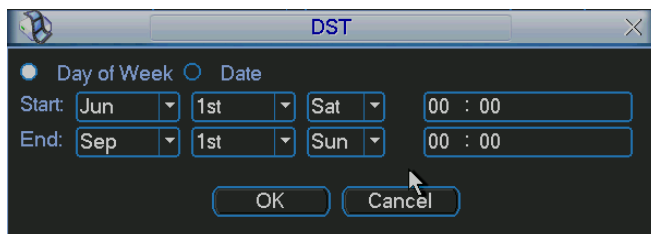
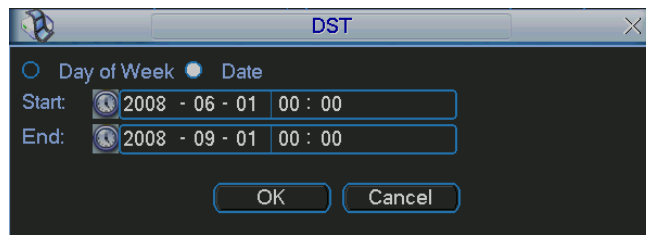

Figure 5-4
Figure 5-5
- DST: Here you can set DST time and date. Please enable DST function and then click set button. You can see an interface is shown as in _Figure 5-4. Here you can set start time and end time by setting corresponding week setup. In _Figure 5-4, enable date button, you can see an interface is shown as in _Figure 5-5. Here you can set start time and end time by setting corresponding date setup.